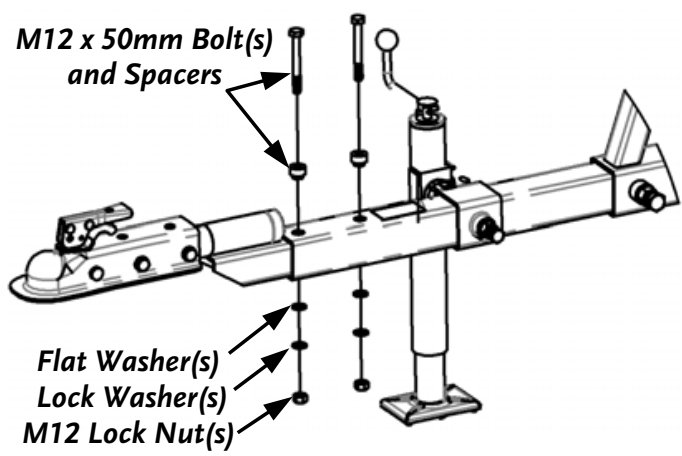

Figure 20
7. Install two M12 x 50mm Bolts and Spacers, with the smaller diameter Shoulder(s) down, (**Figure 20**) through the Tow Bar and Pivoting Tow Hitch. Install a Flat Washer, Lock Washer, and M12 Lock Nut on each Bolt and tighten with a 16mm Socket while holding the Nut with a 17mm Wrench.